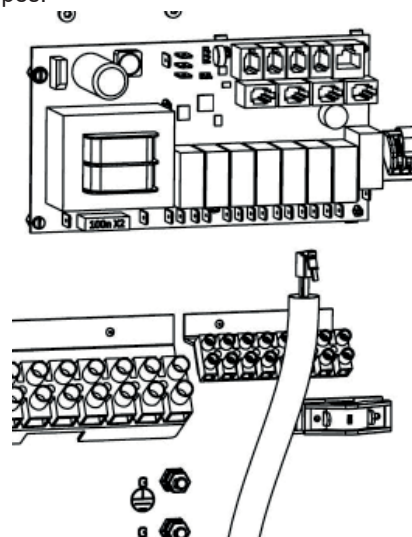

Fig. 14
**ALL LOW POWER CABLING MUST BE ENCLOSED IN THE ACCOMPANYING CABLE SLEEVING IN ACCORDANCE WITH FIG. 14**